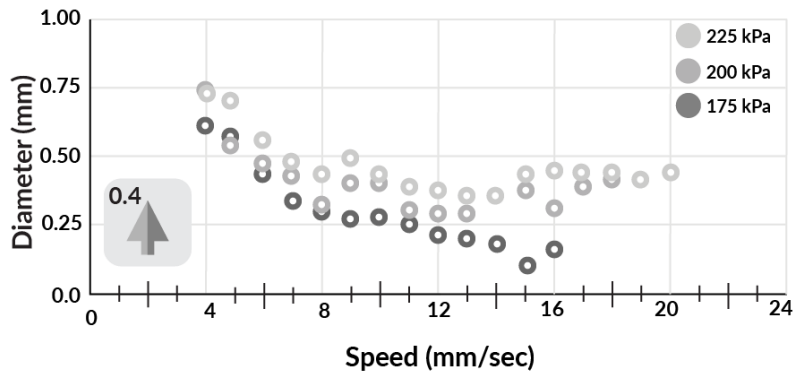

Figure 1. PCL filament thickness dependency on printing speed and pressure when extruded at 180°C.
- Set layer height at 80% of the nozzle diameter. Start with a printing temperature of 180°C and the pressures showed in Figure 1.